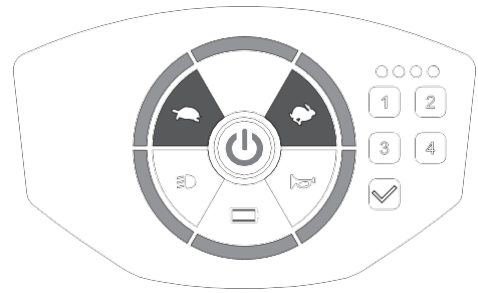

Figure 9
- Press the power switch to get the scooter on power standby (red light on), then press and hold both acceleration [🏍️] / deceleration [🏍️] buttons for 2 seconds. The panel light will be all on when scooter is ready for backlight setting. (Figure 9)